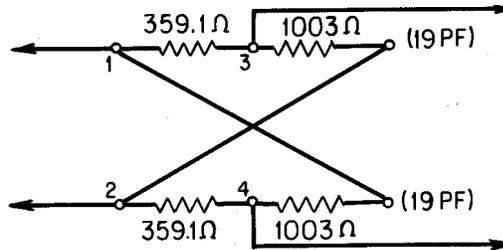

Fig. 1—Schematic of a 12-dB Pad
2.07 One 12-dB pad (600-ohm characteristic resistance) constructed from two 19PF resistors as shown in Fig. 1 and 2.